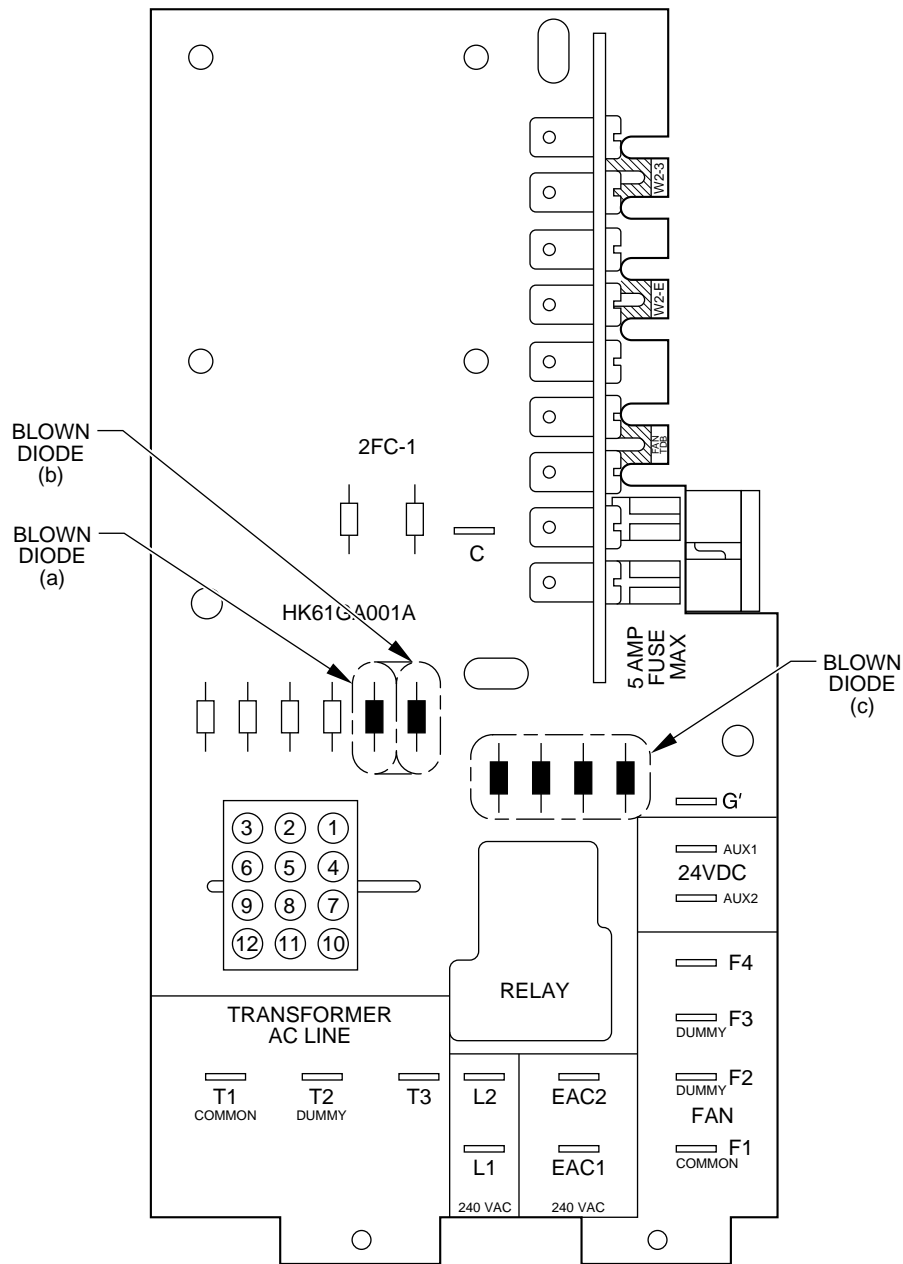

Fig. 13—Control Board Noting Diodes
- c. Check the wiring of the heaters. If the heater is miswired, the fuse may blow. Check the diodes shown in Fig. 13 for signs of overheating. If the heater is miswired, correct the miswiring.